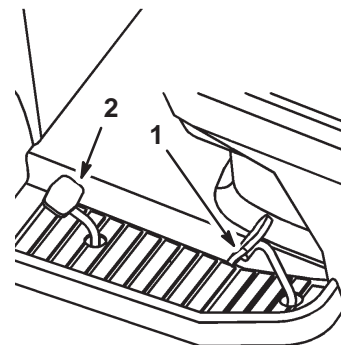

Figure 15
2. Place your foot on the traction control pedal and slowly press on the pedal to move forward (Fig. 15).
2. Place your foot on the reverse speed pedal and slowly press on the pedal to move backward (Fig. 15).